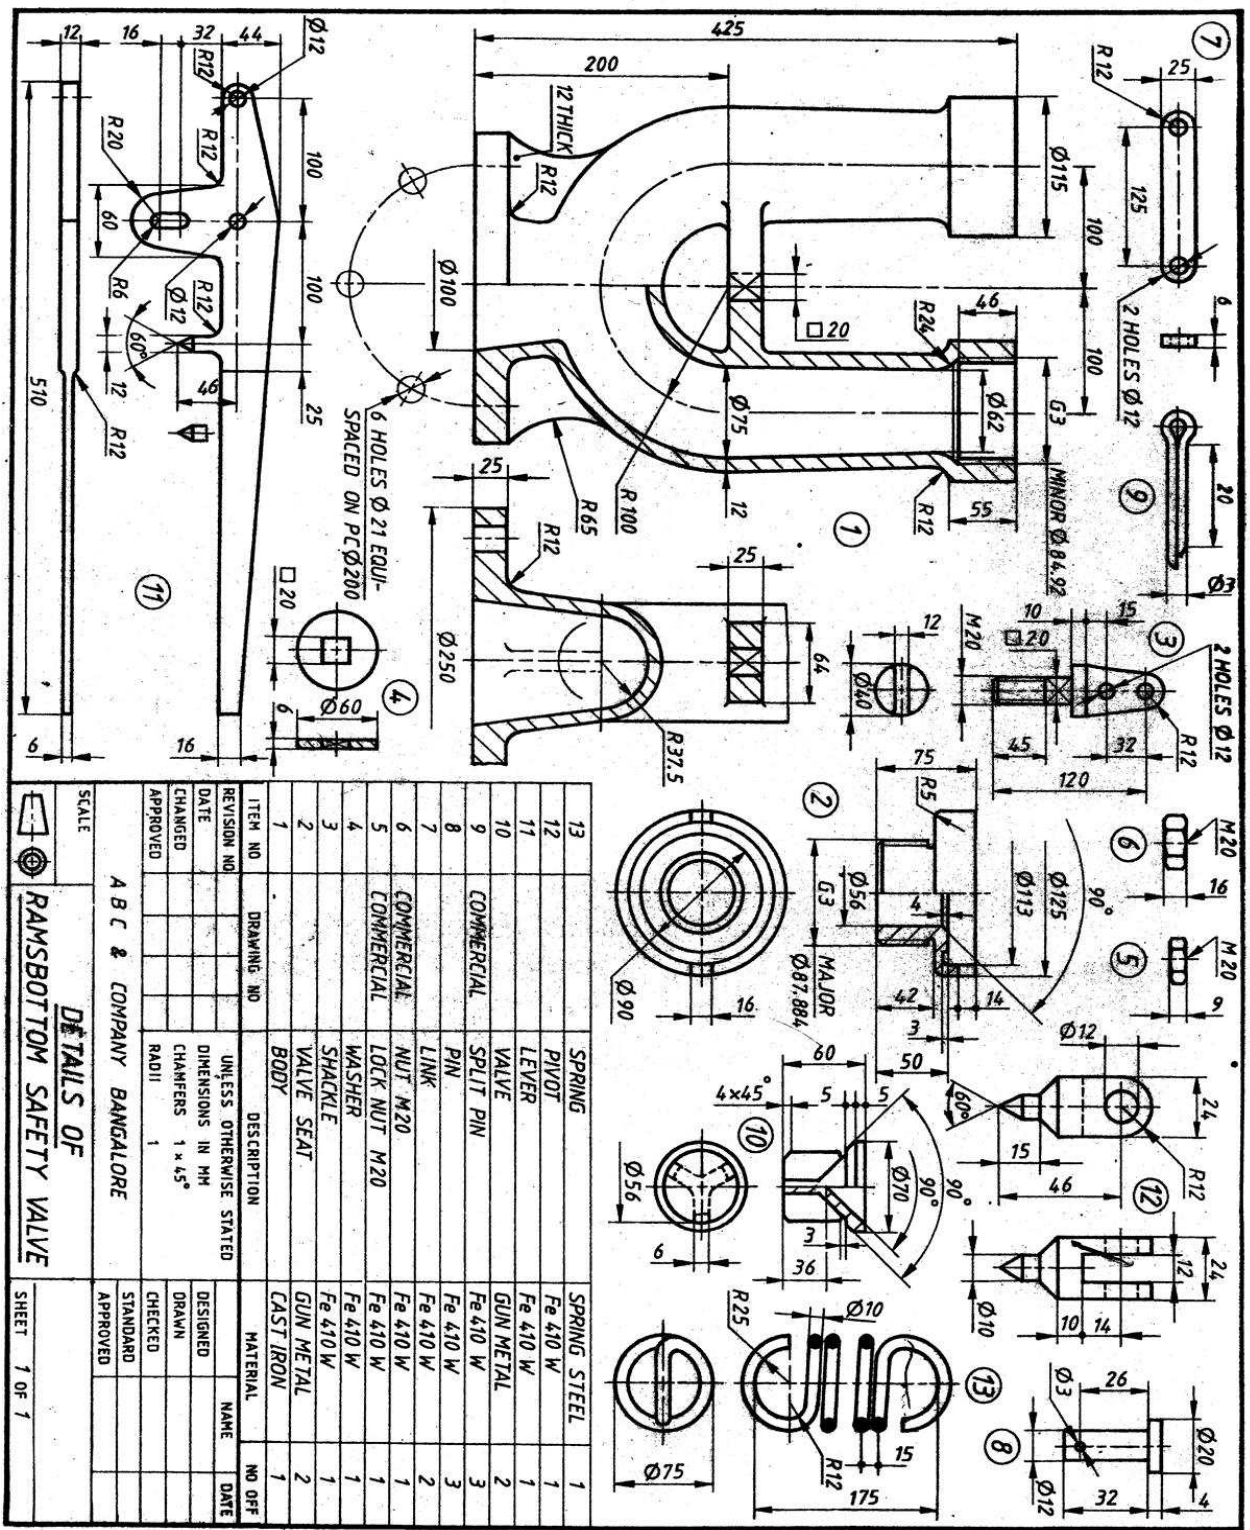

Figure 2 'RAMS BOTTOM SAFETY VALVE'
6. Figure 2 shows the details of 'RAMS BOTTOM SAFETY VALVE'. Assemble the parts and draw the following views of the assembly.